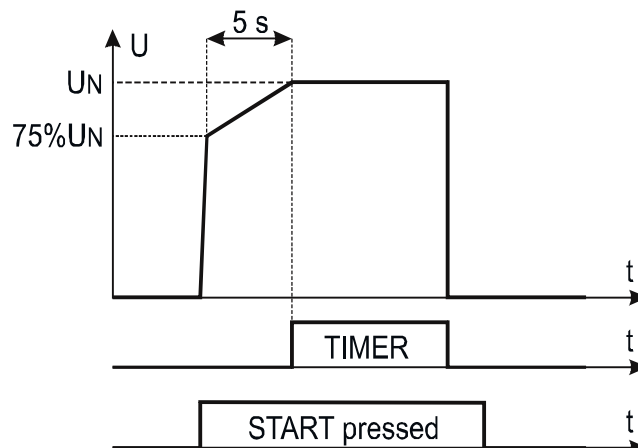

Fig. 37 : DIELECTRIC test in 75% Ramp mode
- **75% Ramp mode (single ramp)** → When the **START/STOP** key is pressed, the test voltage rises up to 75% of the nominal voltage then it takes 5s to reach the nominal value. It is subsequently maintained for a time defined by a programmable timer (see Fig. 37)